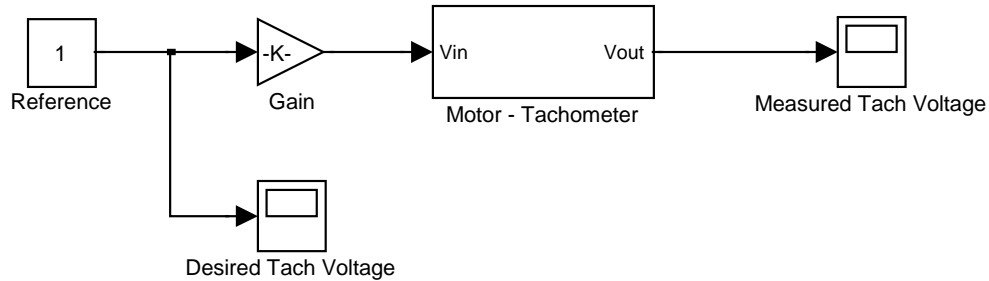

Figure 9: Model for open-loop control.
1. Create the Simulink model shown in Fig. 9.